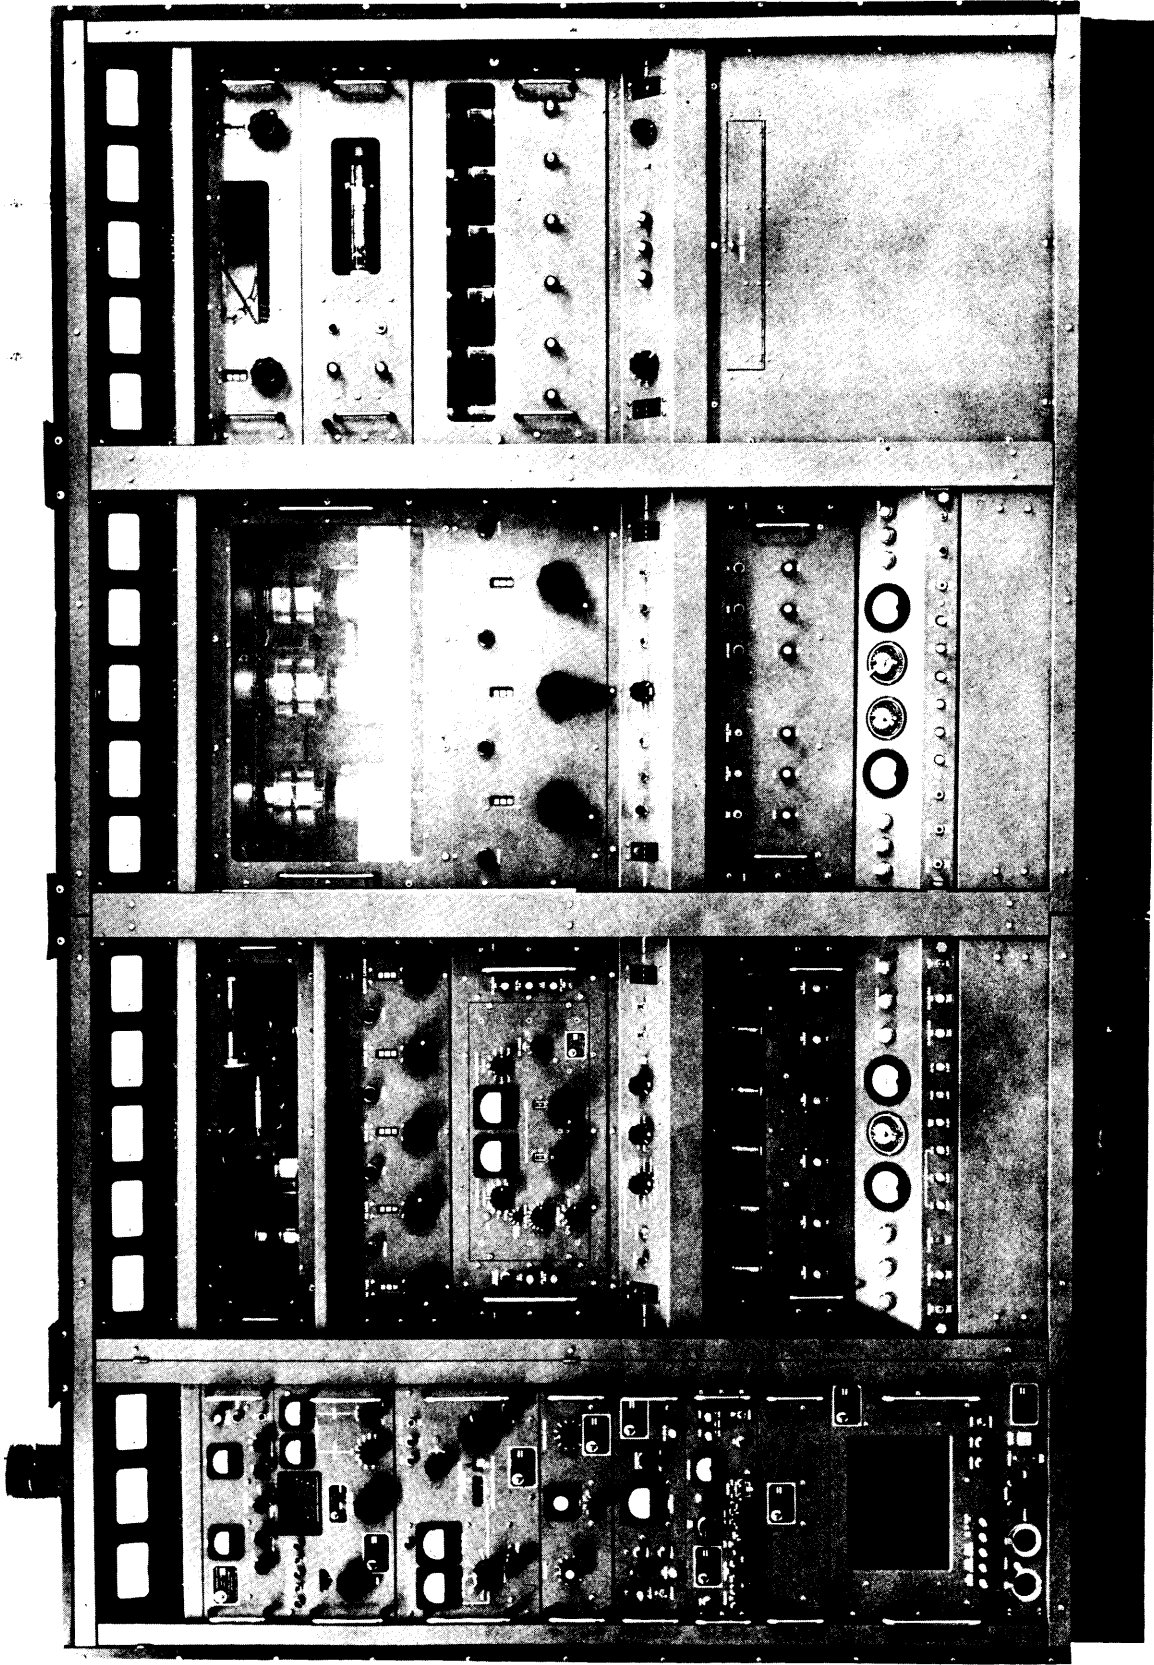

Figure 1. Synthesized GPT-40K Transmitter, Front View
The GPT-40K Transmitter (figure 1) is a conservatively rated general purpose transmitter that delivers 40,000 watts PEP (peak envelope power), or 20,000 watts average power, throughout the 2- to 28-mc range. The operating modes of the transmitter are:
a. GENERAL. - The GPT-40K transmitter (figure 1) consists of an auxiliary frame, a main frame, a power amplifier (PA) frame, and a power supply (PS) frame. All four frames are bolted together and to two base assemblies. One base assembly is common to the auxiliary and main frames, and the other is common to the PA and PS frames. The four frames house all the components of the transmitter and are equipped with protective front and rear doors. Primary power connections are made through the base assembly. Two antenna bowl assemblies, used for balanced output operation, are provided at the top of the PS frame. For unbalanced output operation, a coaxial connector is located on top of the PA frame.